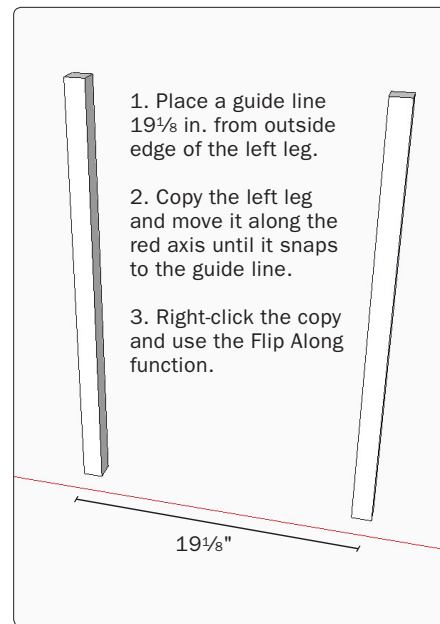

Figure 4. Copy the leg component and place it in position.
Step 2 Copy the leg component and place it in position. Use the Tape Measure Tool to place a guide line to locate the right front leg. Use the Move/Copy Tool to copy the left leg and move it along the red axis until it connects with the guide line. (To stay on the red axis, push the right arrow key or hold the Shift key). Right-click on the copy of the leg component and choose Flip Along Red Axis from the pop-up menus to mirror the copy (Figure 4).